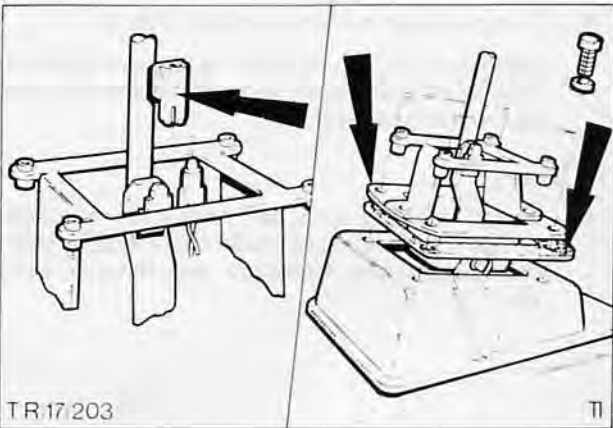

Fig. 4. Remove lamp shroud and selector lever bracket
3. Remove lamp shroud by sliding upwards from its location on selector lever, pull out bulb assembly, Fig. 4.
4. Remove four bolts and washers, detach selector lever bracket and gasket from floor pan location, Fig. 4.